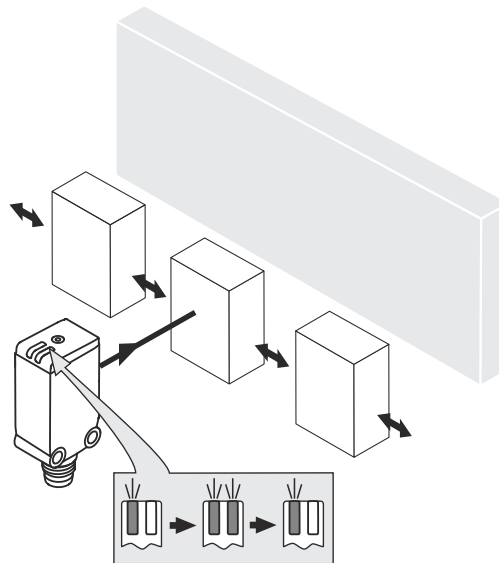

Figure 4: Standard direction
4. Note the preferred direction of the object relative to the sensor. see figure 4, page 28